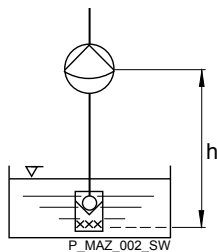

Fig. 6
- With feed chemicals containing impurities or sediment, suspend the foot valve at a sufficient distance above the tank base or any sediment that has accumulated - see Fig. 6.